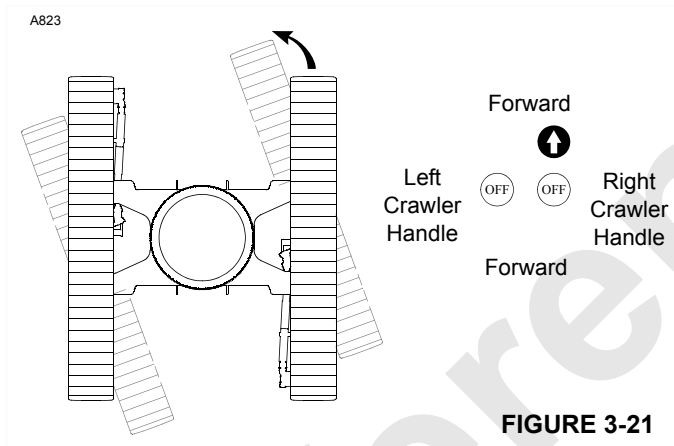

FIGURE 3-21
- Avoid sharp turns (Figure 3-21) if possible.
- 8. To make a sharp left turn (Figure 3-21), move the right crawler handle to the front and leave the left crawler handle in off. The crane will pivot about the left crawler.